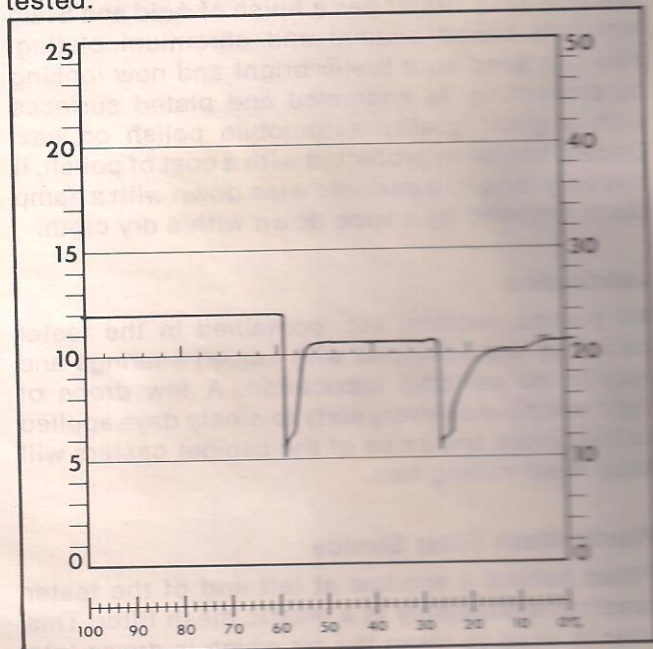

FIGURE 40—Waveform of electronic fuel injection.
7. Adjust VERTICAL and HORIZONTAL knobs to center pattern on ms scale with the first down spike near a 1 ms scale division mark (Figure 40).